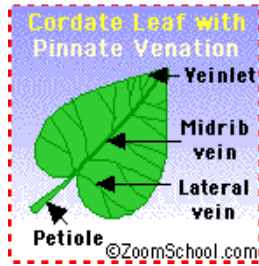

Figure 16.
**PINNATE VENATION** is a character of a leaf with pinnate venation has its veins arranged in pairs coming from a main central midrib vein (the rachis). Refer to Figure 16.
**VEINLET** is a small vein. Veinlets are located toward the margins of the leaf. *Refer to Figure 16.*